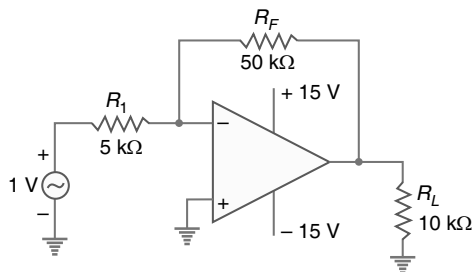

Fig. 23.101
7. For the circuit shown in Fig. 23.101, find (i) closed-loop voltage gain (ii) the instantaneous voltage across  $R_F$  when the signal voltage is +1V (iii) the instantaneous voltage on the - terminal when the signal voltage is +1V.